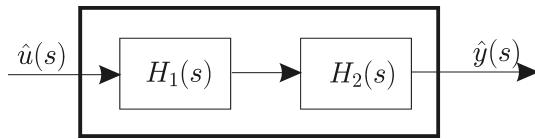

Figure 4.3: Two systems in series
- 1) Let us consider two systems of transfer functions $H_1(s)$ and $H_2(s)$ placed in series as shown on Figure 4.3.